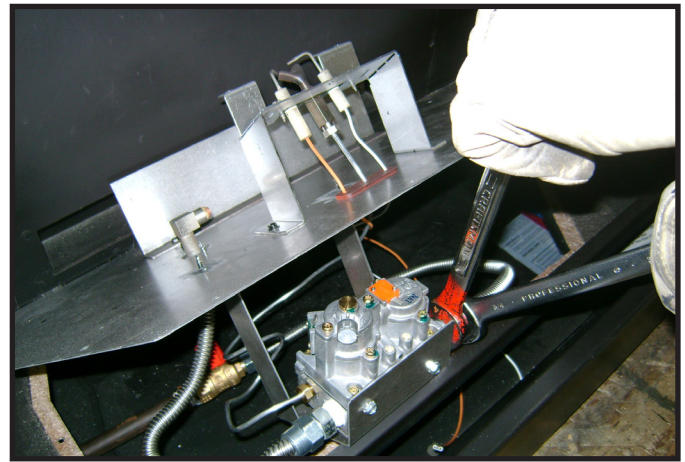
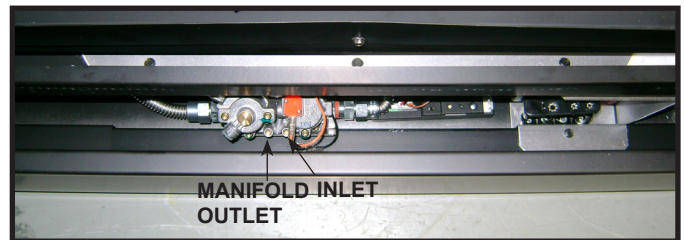

Figure 11.4. Disconnect Gas Valve
Figure 11.5. Pressure Taps
3. Set the valve bracket on the front lip of the firebox bottom. Turn "off" the ball valve. Disconnect gas valve from the gas flex ball valve assembly at the pressure fitting. See Figure 11.4.
**Note:** The manifold and inlet pressure tabs can be accessed from the front of the fireplace, this requires the decorative front and fixed glass assembly to be removed (see Figure 11.5). The manifold and inlet pressure tabs can also be accessed by removing the valve assembly (see Figure 11.4).